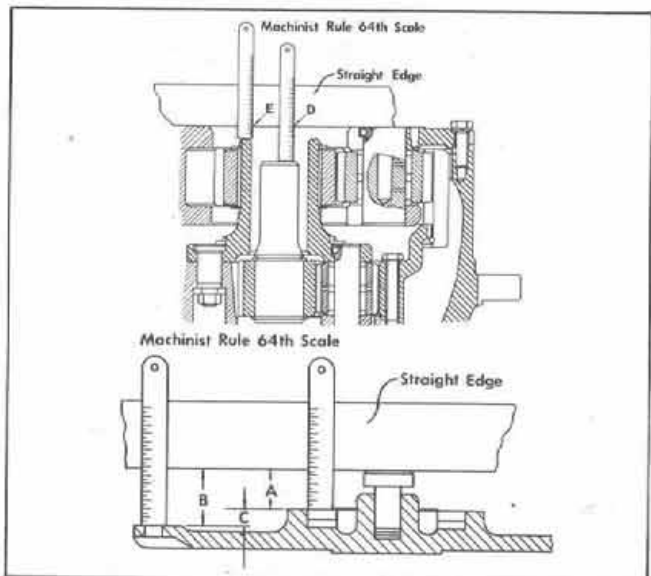

figure 36
Step 67 To check the clearance between the planetary axle and the thrust washer in the cover measure the distances in fig. 36 and use the following formula to determine the clearance. Measure the distances with a straight edge and machinists rule. Place the straight edge and rule as illustrated. Place new gasket on cover when taking cover measurements.